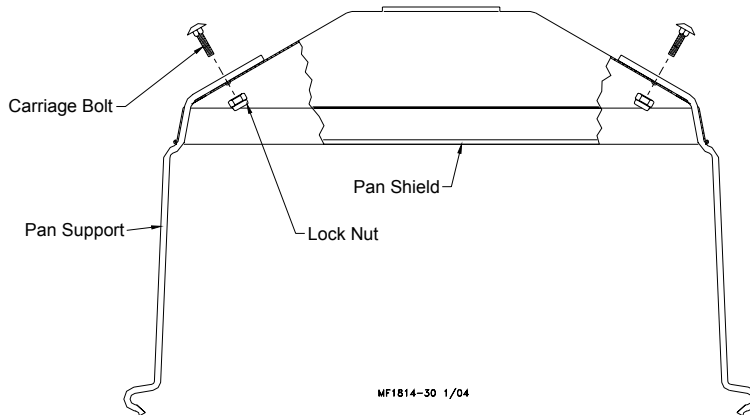

Figure 15. Pan Shield Assembly
3. Bolt the pan support to the pan shield. See figure 15 (on page 15) for instructions on bolting.